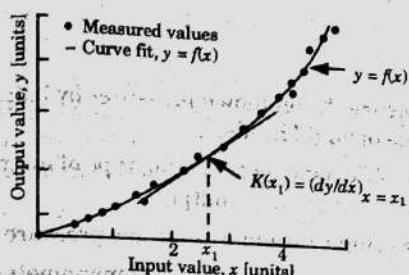

Fig. 4.6.1. A static calibration curve
4. A representative static calibration is shown in Fig. 4.6.1.